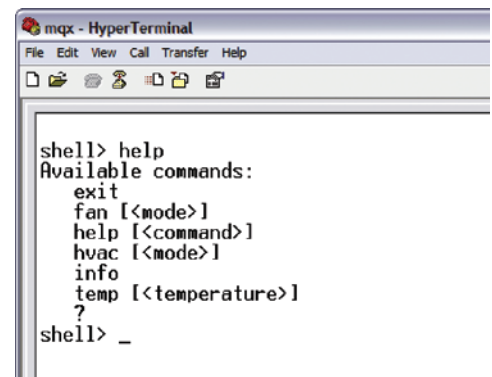

Figure 10: Help command in HyperTerminal Console Window
17. Type **help** to see the list of available commands. Use the **info** command to display the current settings (See Figures 10 and 11).